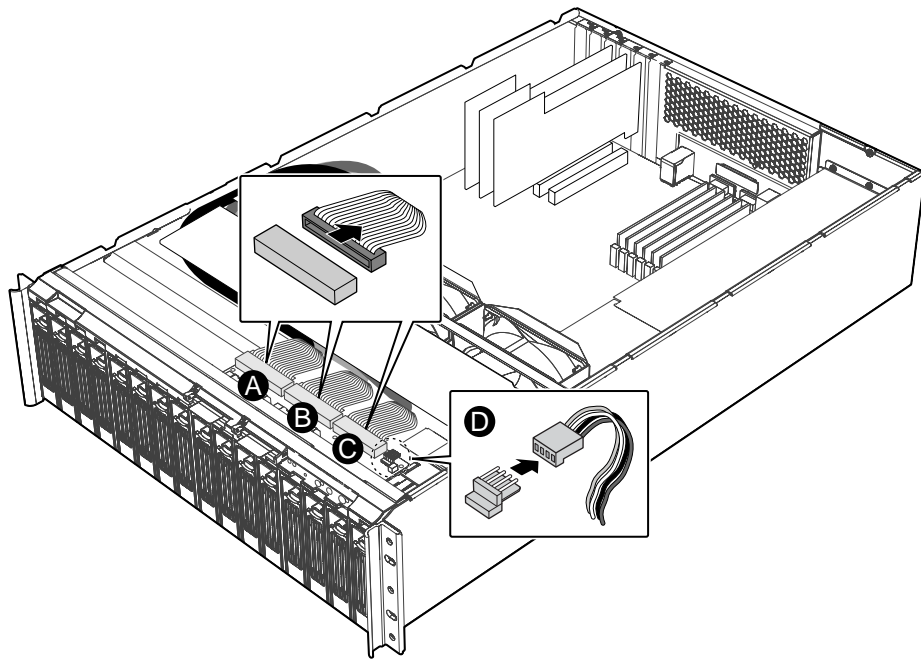

Figure 24. Removing Front Panel Cables
- A. Remove the Primary IDE Cable labeled J5 from its connector receptacle on the front panel board. See Figure 24.
- B. Remove the Secondary IDE Cable labeled J3 from its connector receptacle on the front panel board. See Figure 24.
- C. Remove the Front Panel Cable labeled J1 from its connector receptacle on the front panel board. See Figure 24.
- D. Remove the front panel power connector from its connector receptacle on the front panel board. See Figure 24.